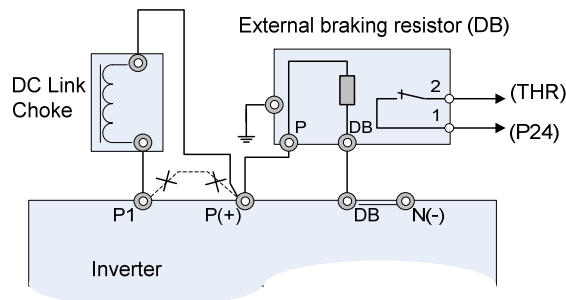

Fig. 2-3-4 Connection (10HP/CT, 15HP/VT or less)
4. Connecting an external braking-resistor to terminals (P (+) and DB) (10HP/CT, 15HP/VT or less) (Fig. 2-3-4). For inverters 10HP/CT, 15HP/VT or less, a built-in braking resistor is connected to terminals P (+) and DB. If this braking resistor does not provide sufficient thermal capacity (e.g. high operating duty cycle or high inertia loads), an optional external braking resistor must be installed to improve braking performance.